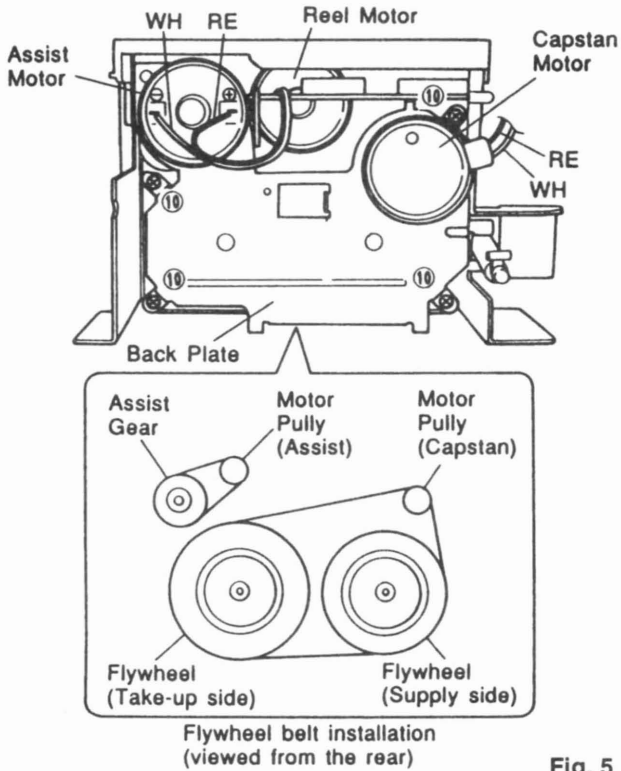

Fig. 5
- b. Remove 4 screws (⑩) in Fig. 5 and then remove the Back Plate.